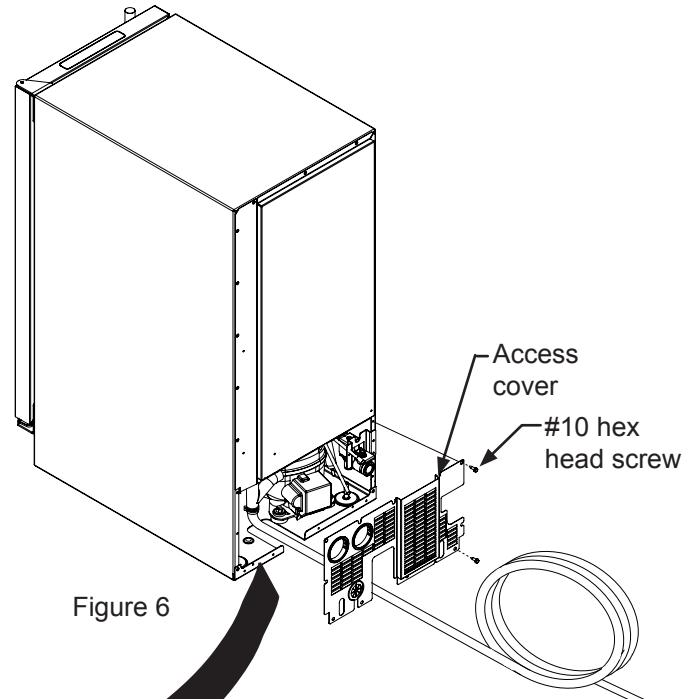

Figure 6
6) Remove the hex head screws from around the perimeter of the rear access cover with the $\frac{5}{16}$ " nut driver and remove the access cover from the ice machine. (See Figure 6).